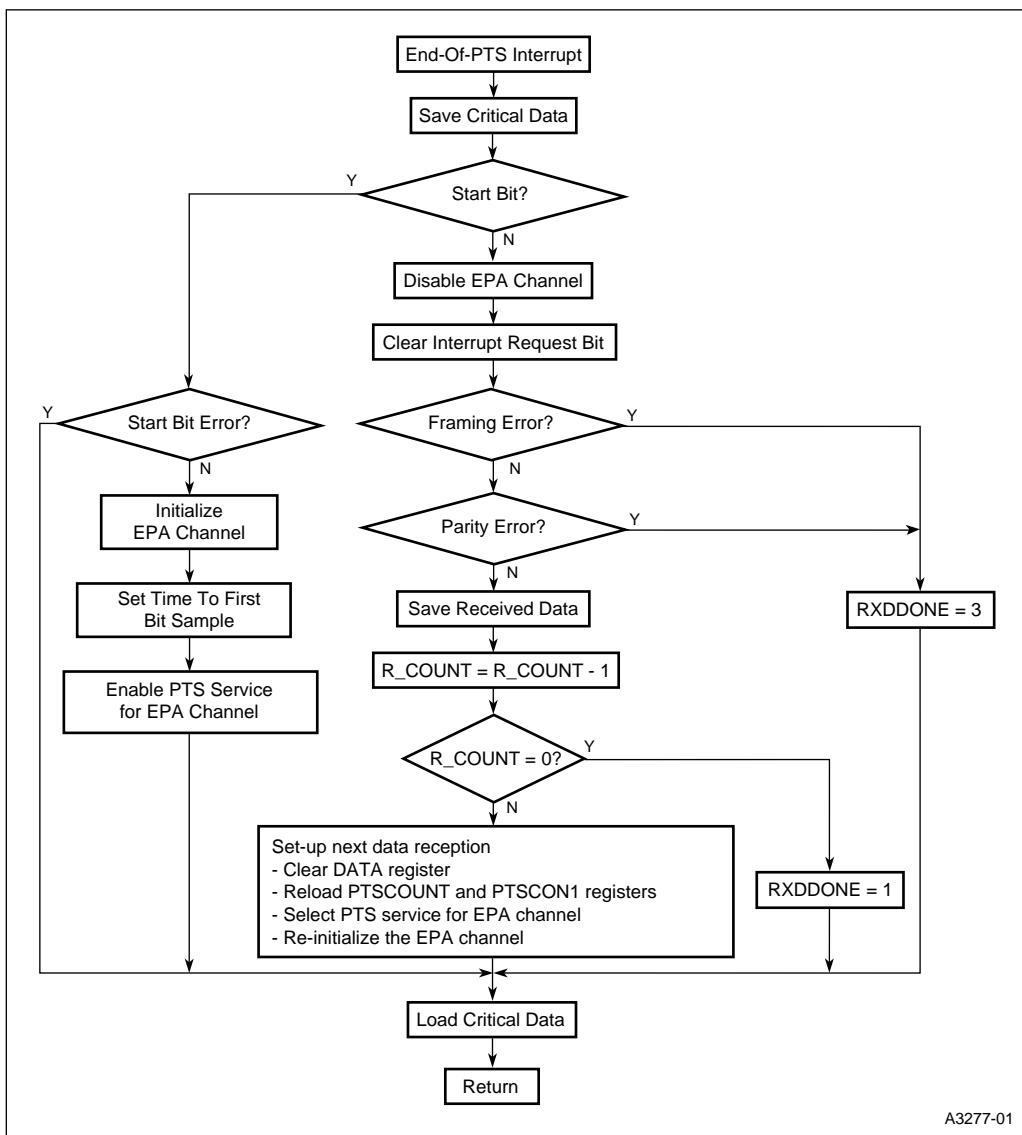

Figure 5-28. Asynchronous SIO Receive Mode — End-of-PTS Interrupt Routine Flowchart
4. The PTS routine begins sampling the data every 1.5 bit times. When PTSCOUNT decrements to zero, the PTS calls the end-of-PTS interrupt (Figure 5-28). The interrupt service routine should check to see if a framing or parity error occurred (Figure 5-19 on page 5-38), clear the DATA registers to prepare for the next reception, reload the PTSCOUNT and PTSCON1 registers, and reconfigure the EPA channel to select capture on falling edge mode. Note that PTS service is not enabled for the EPA channel at this time because the next interrupt must be a conventional interrupt.